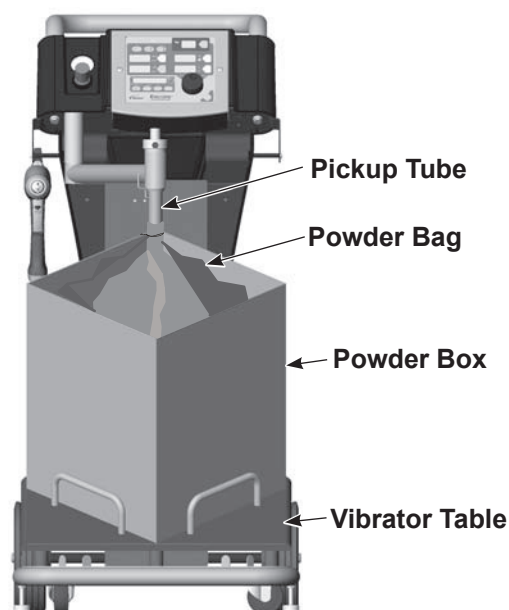

Figure 4-2 Powder Box Startup
2. See Figure 4-2. Place a box of powder on the vibrator table.